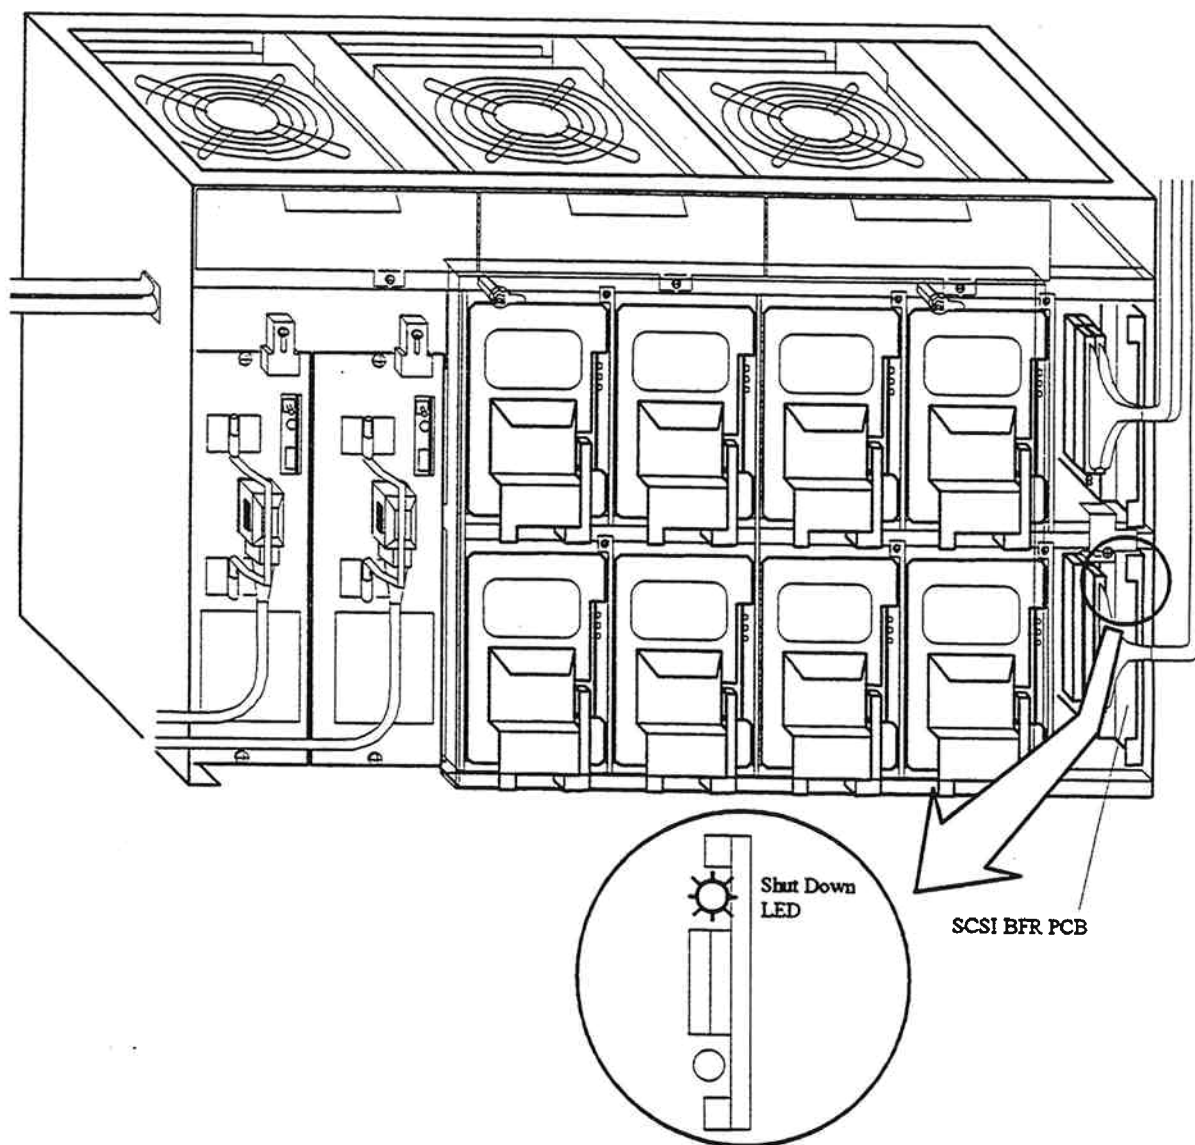

Fig. 3.3.13.2.6-6 Confirmation of the Shut Down LED Light
7. Connect the SCSI interface cables to the SCSI BFR PCBs in the second DKU chassis referring to figures 3.3.13.2.6-7 and 3.3.13.2.6-8.